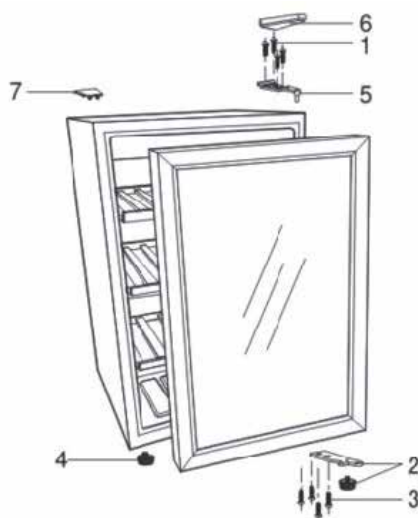

Fig.4
- Remove the upper hinge cover (Fig.4: No.6).
- Remove the screws (Fig.4: No.1) that secure the upper hinge (Fig.4: No.5) to the frame. Remove the upper hinge (Fig.4: No. 5).
- Remove the screws (Fig.4: No.3) that hold the lower hinge, front leg (Fig.4: No.2). Remove the lower hinge, front leg (Fig.4: No.2).
- Remove the front leg (Fig.4: No. 4) and transfer to opposite side.